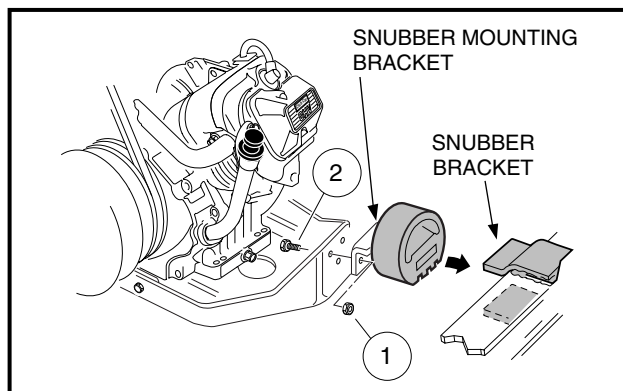

Figure 9-4 Snubber Brackets
2. Working from above, remove the two bolts (2) and two lock nuts (1) securing the snubber bracket to the engine mounting plate (Figure 9-4, Page 9-4).
2. Tighten snubber bracket mounting nuts (1) to 13 ft-lb (17.6 N·m) (Figure 9-4, Page 9-4).